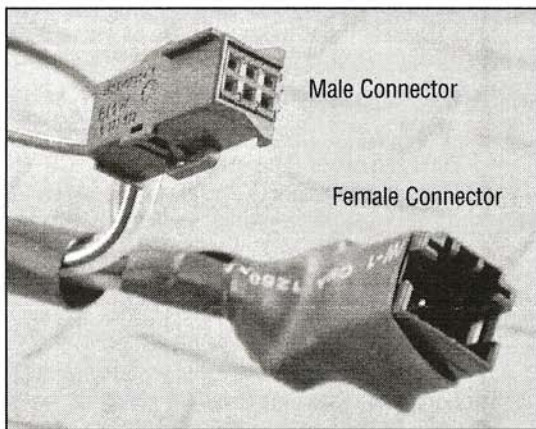

Figure 1
- A. Connect the 6-pin male connector on the DOCKBMWV2 harness (Figure 1 below) to the factory CD changer.
- B. Plug the factory 6-pin male connector into the female connector on the DOCKBMWV2 harness (Figure 1 below).